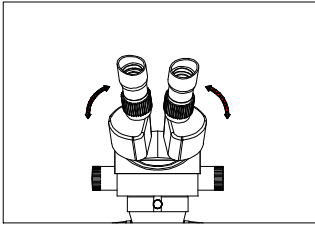

Fig.4
- 1) Adjust the prism housing along the direction of arrowhead of the Fig.4 till the observation is comfortable.